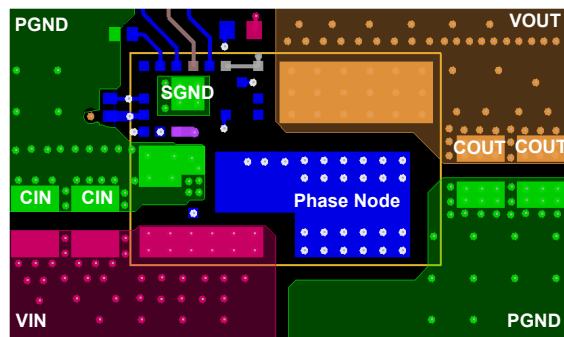
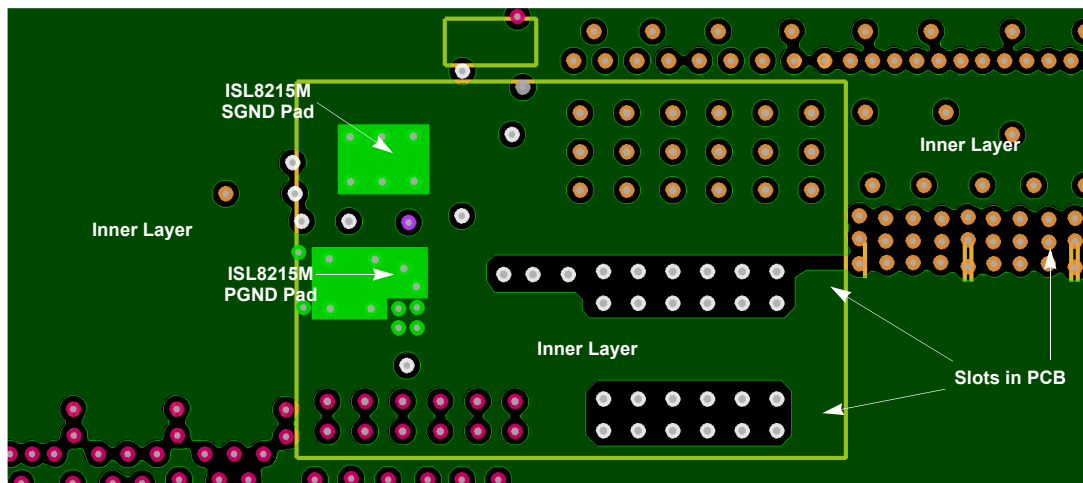

Figure 46. Layout Example - Top Layer
Figure 48. Layout Example - SGND is Connected to PGND Through Internal Layer
- (1) Place the input capacitors and high frequency decoupling ceramic capacitors between VIN and PGND, as close to the module as possible. The loop formed by the input capacitor, VIN pad, and PGND must be as small as possible to minimize the high frequency noise. Place the output capacitors close to the load. Use short, wide copper planes to connect the output capacitors to the load to avoid any parasitic inductances and resistances. A layout example is shown in Figures 46 and 47 on page 30.
- (2) VIN, VOUT, and PGND should use large copper planes to minimize conduction loss and thermal stress. Use enough vias to connect the power planes in different layers.
- (3) Use full ground planes in the internal layers (underneath the module) with shared SGND and PGND to simplify the layout design. Renesas recommends using slots, as shown in Figure 48 on page 30, to ensure that the switching current avoids the SGND pad of the module. Use as much GND plane as possible for the layer directly above the bottom layer (containing components like input caps, output caps, etc). Use the top and bottom layer to route the EN, VCC, and PGOOD signals.
- (4) For a switching frequency of 300kHz and a 42V input, connect a 4.02Ω 1206 resistor and a 270pF 100V X7R 0603 capacitor in series from PH to VIN. Derate the resistor size for switching frequencies higher than 300kHz. Calculate the power dissipated in resistor R5 ( $P_{cal}$ ) by using the formula  $C \cdot V^2 \cdot f$ , where: